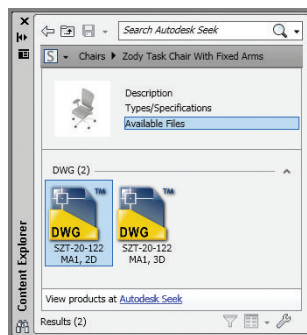

FIGURE 9.18 Selecting a specific file to download
- Double-click the selected item. The page that appears in the Content Explorer lists the available files. Right-click the first icon—SZT-20-122 MA1, 2D—for the two-dimensional representation of this chair (see Figure 9.18) and choose Insert. The cursor displays a thumbnail image of the file with a progress bar.